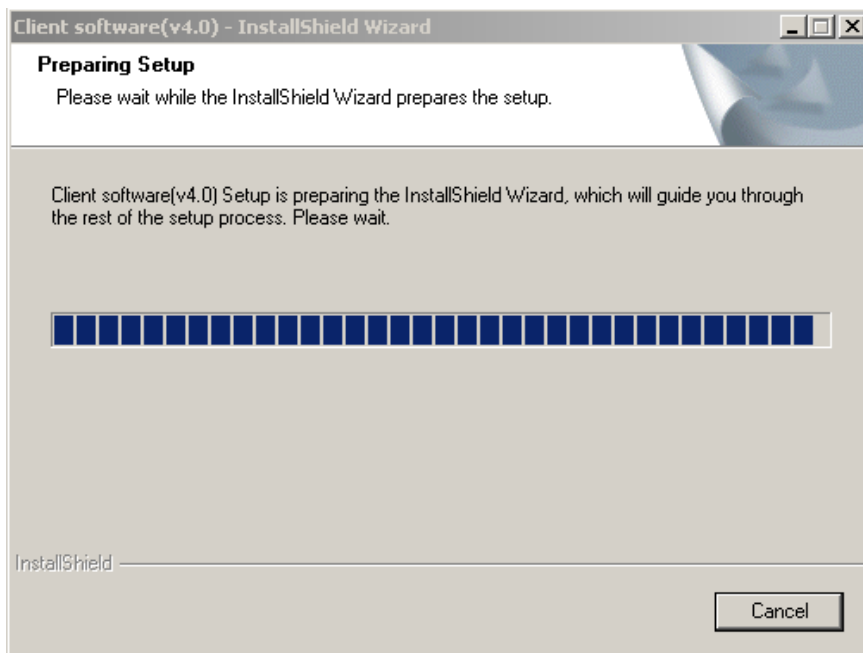

Fig.2.3.1 Client Software Installation
Step1: Double click 'Client software 4000 (v2.0)' in the Windows Operating System. The 'Preparing Setup' dialog box will pop up as Fig.2.3.1 automatically;